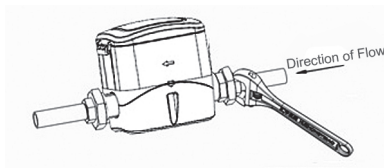

Fig.5-2 Meter Mounting Diagrammatic Sketch 2
- Align the meter and pipe concentrically. Screw the unions on the meter's connecting threads and then tighten up with a spanner (Fig. 5-2)